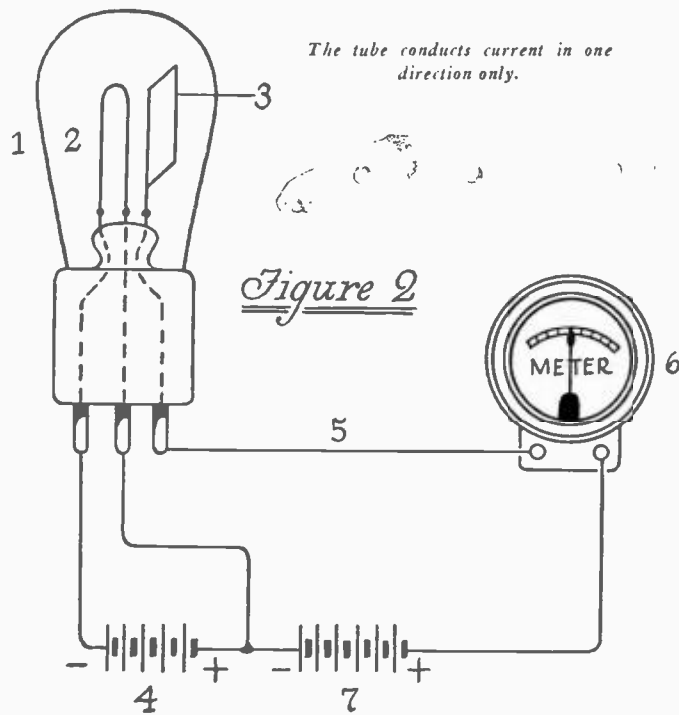

Figure 2
The crystal is ordinarily connected in the grid circuit of a small tube as shown in Fig. 1. The choke across the crystal supplies bias to the grid of the tube. When the plate circuit is tuned to the proper value the plate current will change somewhat as shown in Fig. 2. Also current begins to oscillate in the tank circuit.
IT WILL then be inevitable, that this current will flow also when the plate is made even more positive, for instance by means of a separate battery, as shown in Fig. 2, where we have added such a battery (7) in the plate circuit. Also, that if we reverse this battery, and thus make the plate more negative, no current whatsoever will flow.